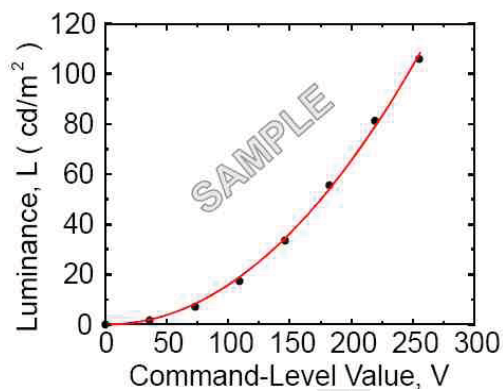
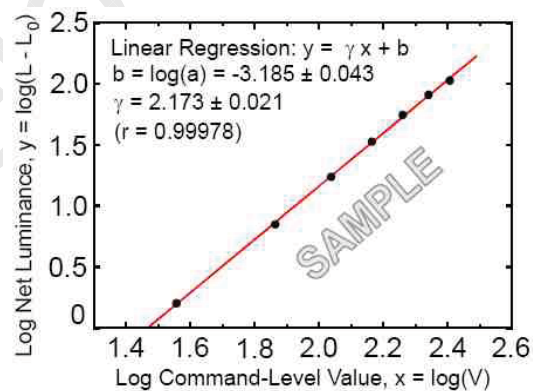

FIG.11 Sample Luminance vs. gray scale
FIG.12 Sample Log-log plot of luminance
7. GSR is the rate of gamma shift at up, down, left and right 60 degree viewing angle compare with center gamma. For more information see FIG.11 and FIG.12
The GAMMA we calculate from the log-log representation (FIG.11)